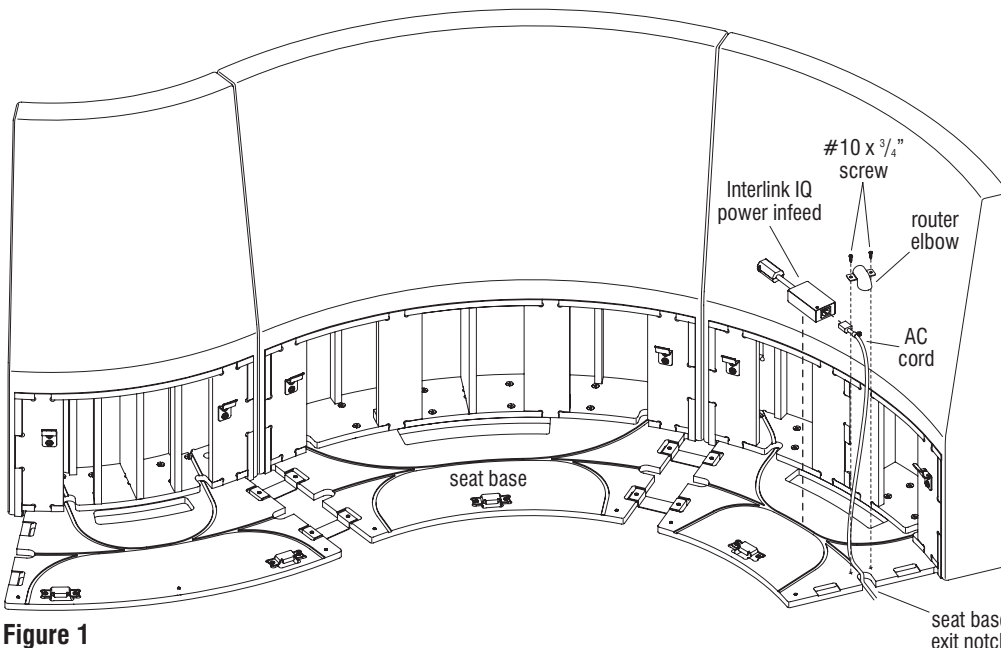

Figure 1
1. Per the space-planning layout, place the Interlink IQ power infeed centered, on top of the cable path of the seat base with the seat base exit notch (Figure 1 & Detail A).
2. Plug the AC cord into the receiving end of the Interlink IQ power infeed. Route the AC cord along the cable path that leads down and out the seat base exit notch. DO NOT plug the AC cord into the power source until instructed to do so (Figure 1 & Detail A).
3. Where the AC cord exits the lounge, through the seat base exit notch, press the cable down to the floor and place the router elbow over the seat base exit notch (Detail B). Align the elbow opening to the cable path, and $\frac{1}{4}$ " back from the seat base edge. Secure the elbow to the base using two #10 x $\frac{3}{4}$ " Phillips wood screws. Take care to not over tighten (Figure 1 & Detail B).
4. Locate the cord strain relief clip and position it centered, between the Interlink IQ infeed box and the router elbow as illustrated in Detail C. Insert the cable into the opening of the clip. The part of the clip where the cable is enclosed should be positioned over the cable path, while the tabs with the mounting holes must be on the seat base. Secure the clip to the base using one #10 x $\frac{3}{4}$ " screw (Figure 1 & Detail D).